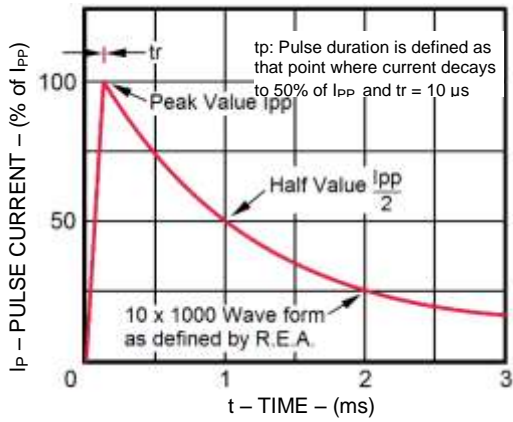

FIGURE 1 EXponential PULSE
* See figure 1 for I_{PP} waveform of 10/1000 μs test pulse.